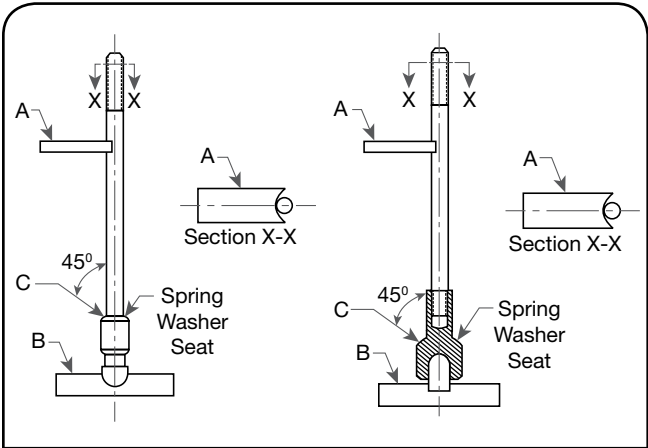

Figure 33: V-Block Support Setup
1. Set up the V-block support (see Figure 33) as follows:
- Place the ball-pointed spindles in a piece of material B that has been recessed to permit free rotation of the spindle (15). For hollow spindles, a ball-pointed support is required.